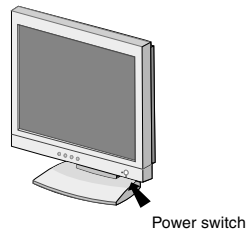

Figure E.1
6. Turn on the monitor with the Power Button (Figure E.1) and the computer.